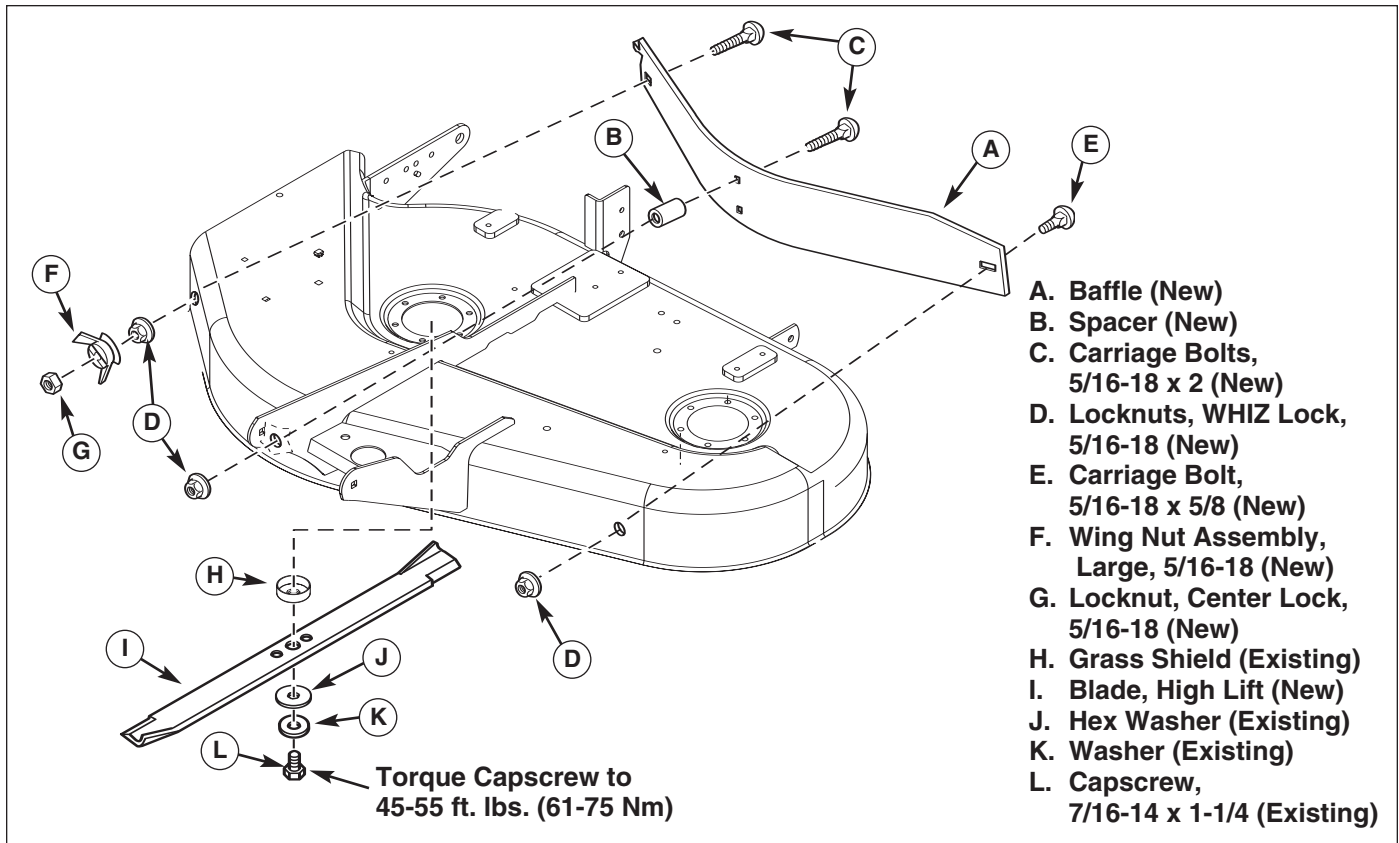
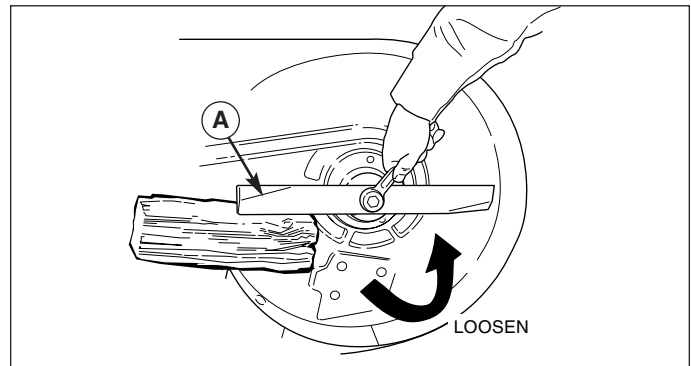

Figure 3. Baffle Assembly
Figure 4. Blade Removal
2. Install notched side of baffle (A, Figure 3) to discharge side of deck securing with 5/16-18 x 2 carriage bolt (C) and 5/16-18 locknut (D). Install 5/16-18 wing nut (F) and locknut (G) to carriage bolt (C) as shown.
3. Secure center of baffle (A) to deck using 5/16-18 x 2 carriage bolt (C), spacer (B) and nut (D). Secure LH end of baffle (A) to deck using 5/16-18 x 5/8 carriage bolt (E) and nut (D).
4. Remove right hand blade (A, Figure 4). Use a block of wood to prevent blade rotation while loosening the capscrew.